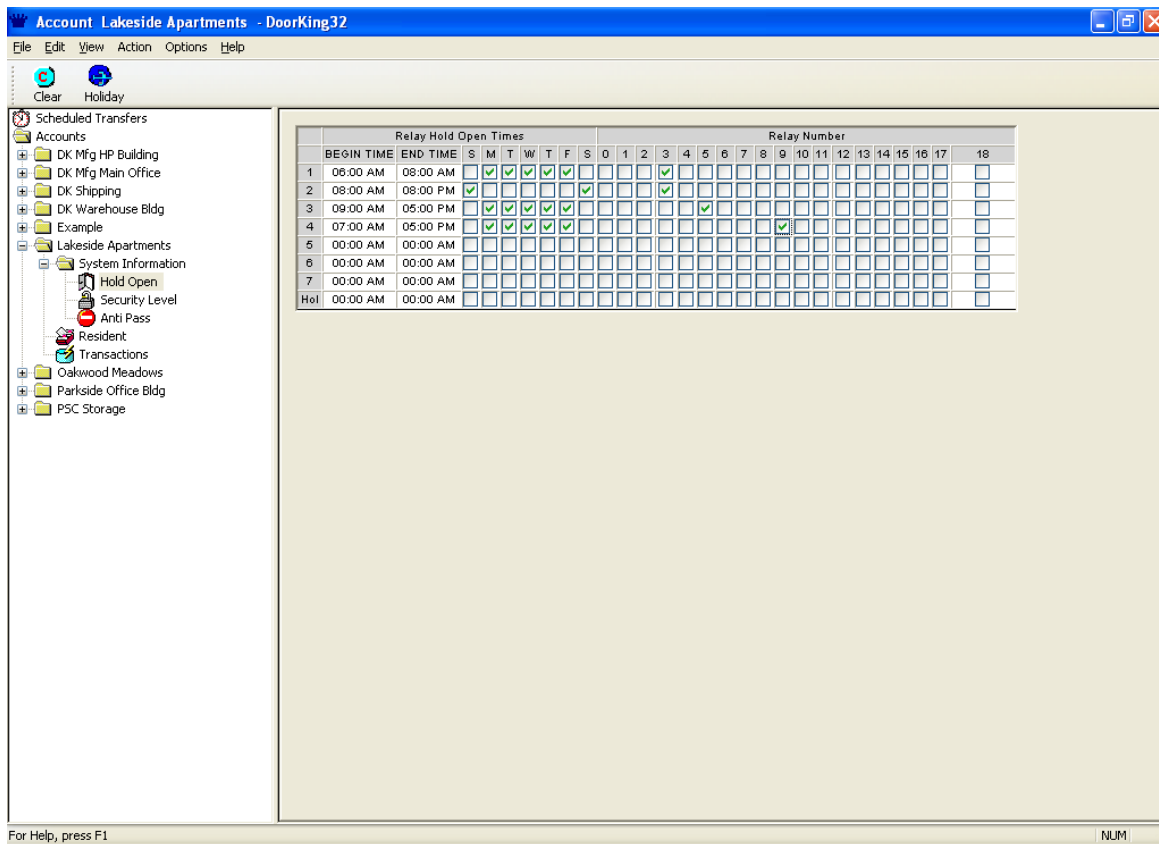

Figure 21
1. Click the relay(s) next to the time zone that you want to apply the time zone to. A check will appear in the box (Fig 21).